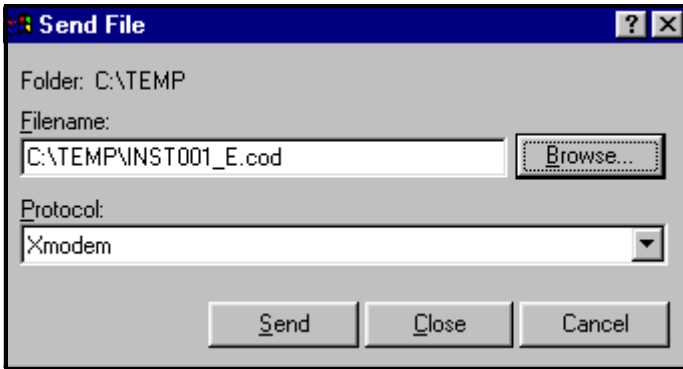

Figure 135: The Send File Window in the Transfer Menu
- In the Hyperterminal window, pull down the Transfer menu and click *Send File*. A window opens similar to Figure 135 below.